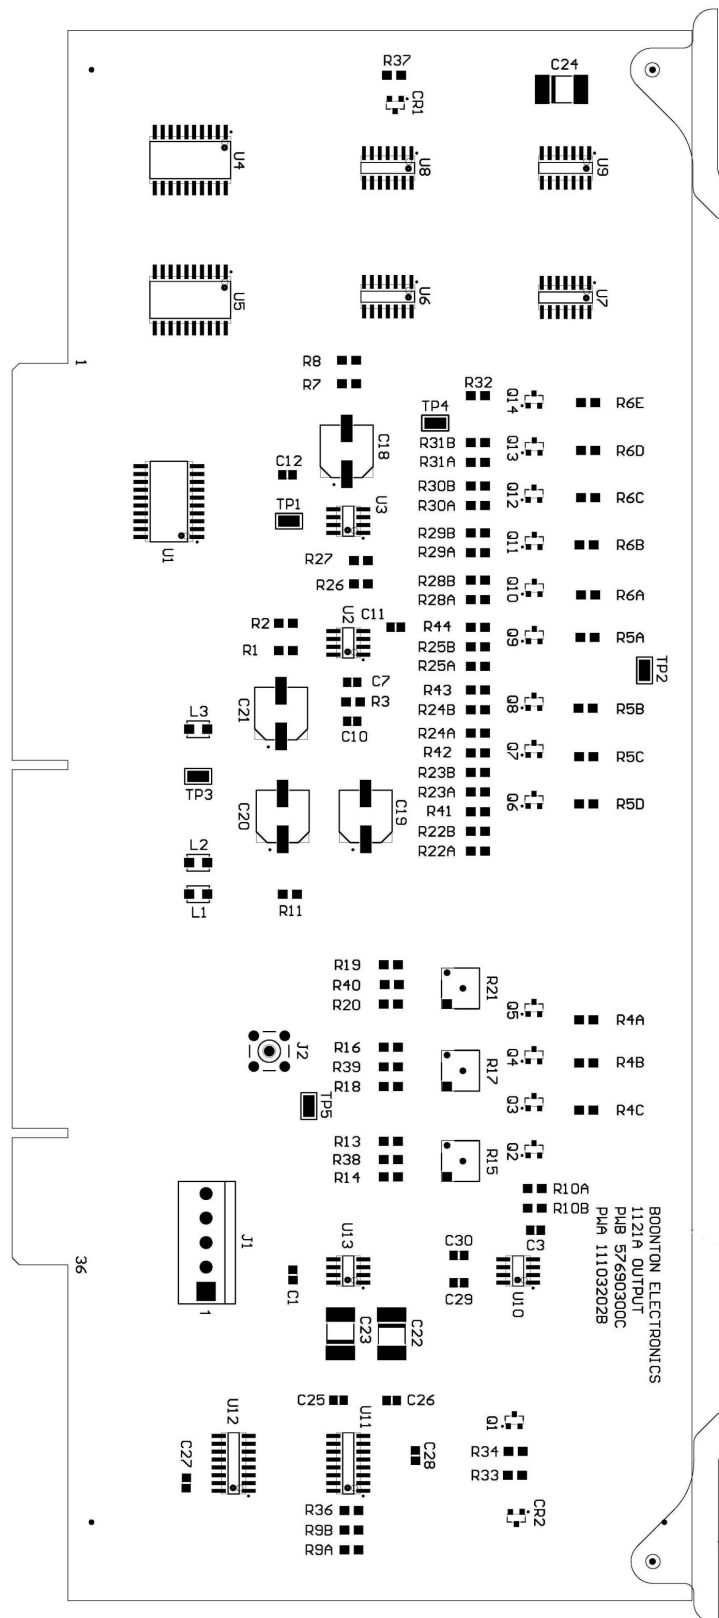

Figure 6-10. PWA '1121A' Output (A7)
**11103202A PWA OUTPUT 1121A (A7) (Figure 6-10)